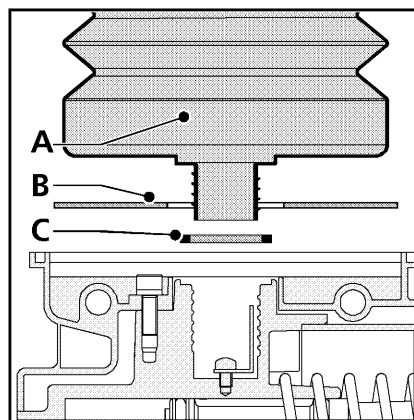

Fig. B11
3. Remove the rubber gasket (fig. B11.C) and the cardboard disc (fig. B11.B), and replace them with new ones (supplied with the new cartridge).